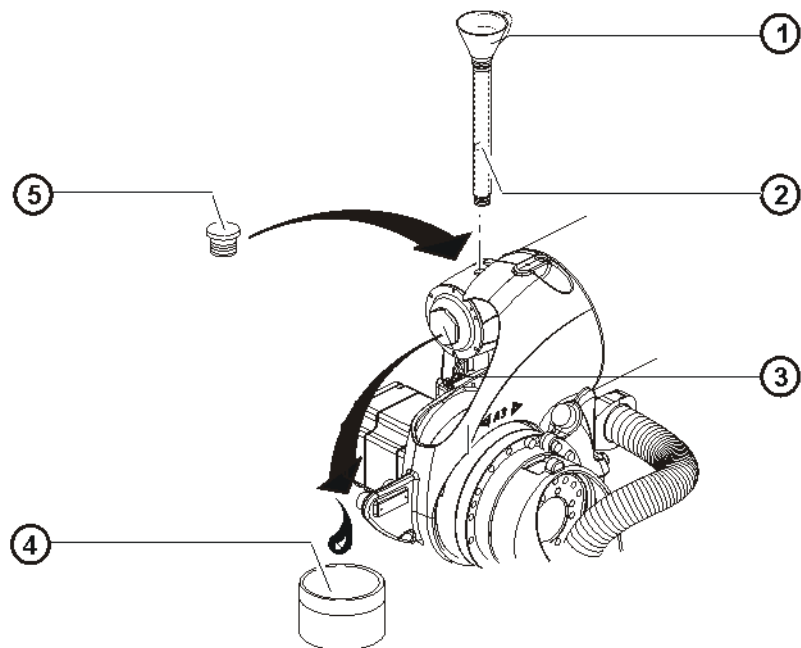

Fig. 9-5: Changing the oil on axis 4, input stage
1. Move axis 3 (>>> Fig. 9-5) into the 0° position.
1. Screw in the hose (>>> Fig. 9-5).